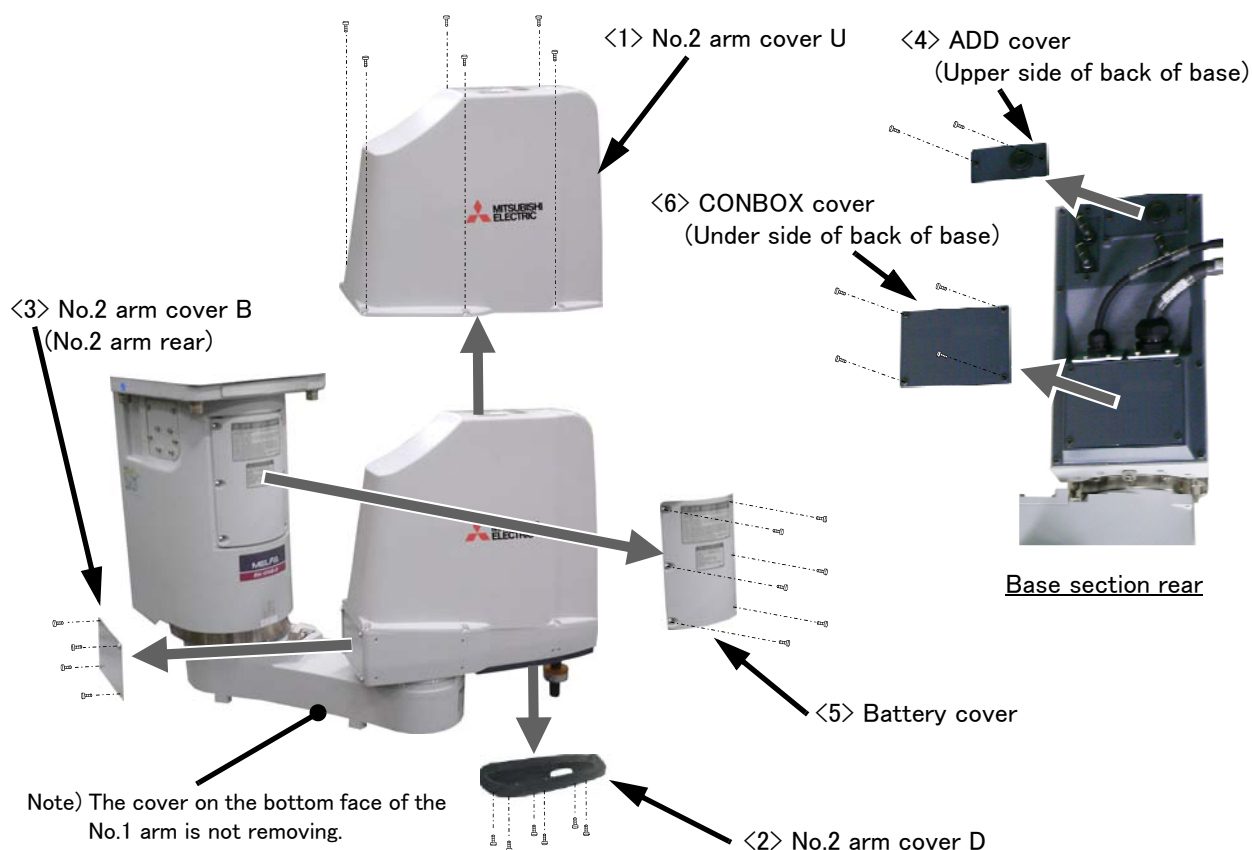

Fig.5-3 : Installing/removing the cover
- (1) Referring to Fig. 5-3, remove the covers.
- (2) The names of the covers and installation screws are given in Table 5-3.
- (3) When reattaching the covers after a maintenance inspection, proceed in the reverse order of their removal. Tightening the screw with the torque shown in Table 5-3.
- 2) Refer to Page 68 "Fig. 5-3: Installing/removing the cover", and remove the No.2 arm cover U.
2) Refer to Page 68 "Fig. 5-3: Installing/removing the cover", and remove the No.2 arm cover U.